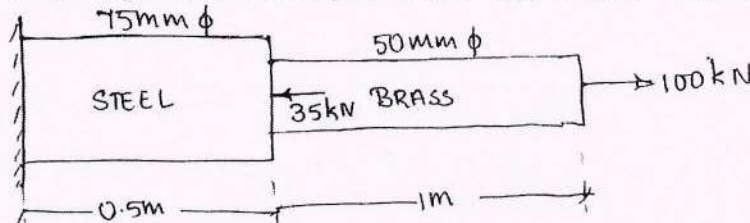

Fig.Q1(b)
- b. Two solid cylindrical rods are connected and loaded as shown in Fig.Q1(b). Determine: